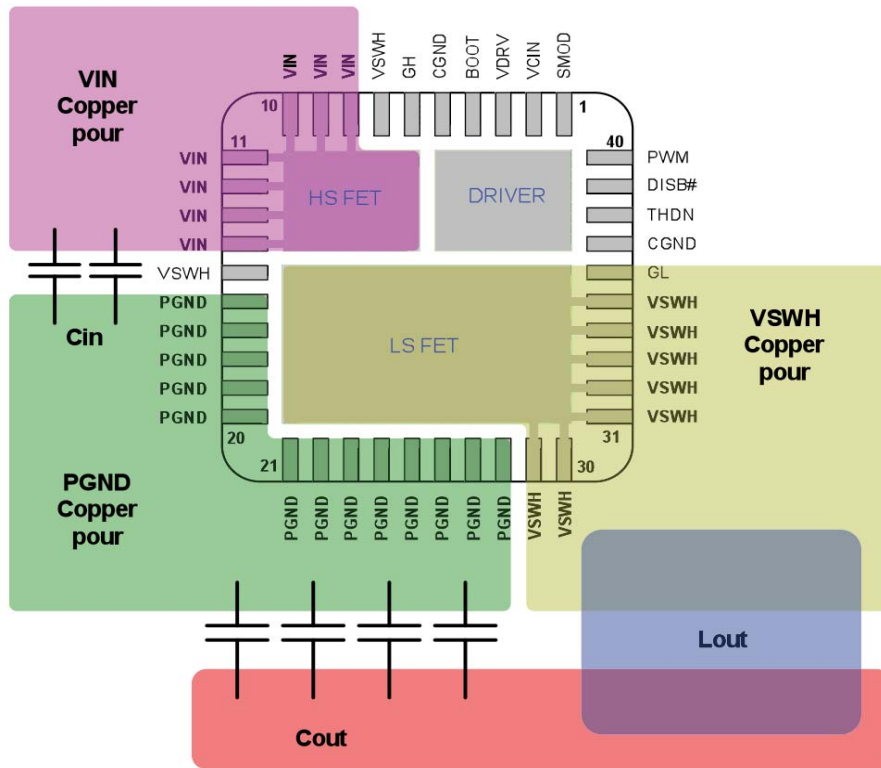

FIGURE 7. PCB LAYOUT FOR MINIMIZING CURRENT LOOPS
- Place a 0.1 μ F and multiple 10 μ F or greater ceramic capacitors directly at device between V_{IN} and PGND as indicated in Figure 7. This is the most critical decoupling and reduces parasitic inductance in the power switching loop. This will reduce overall electrical stress on the device as well as reduce coupling to other circuits. Best practice is to place the decoupling capacitors on the same PCB side as the device.
- Place PVCC, V_{CC} , and BOOT-PHASE decoupling capacitors at the IC pins with the shortest loop as shown in Figure 7.